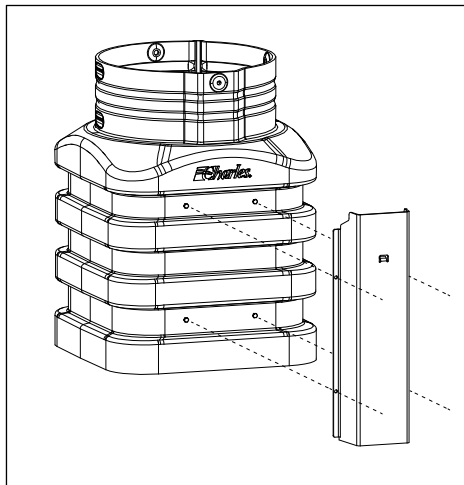

Figure 2
1. Place the drop channel against the outside of the pedestal, centered. Ensure that the holes in the drop channel are positioned over the pedestal valleys, rather than the ridges (Figure 2).
2. Hold the drop channel very still and use the holes in the drop channel as a drilling template. Drill four holes in the side of the pedestal using the drill bit included with the kit (Figure 2).